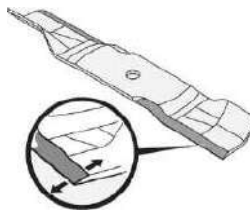

Figure 4-25
3. To properly sharpen the cutting blades, remove equal amounts of metal from both ends of the blades along the cutting edges, parallel to the trailing edge, at a 25°-30° angle. Always grind each cutting blade edge equally to maintain proper blade balance. See Figure 4-25.